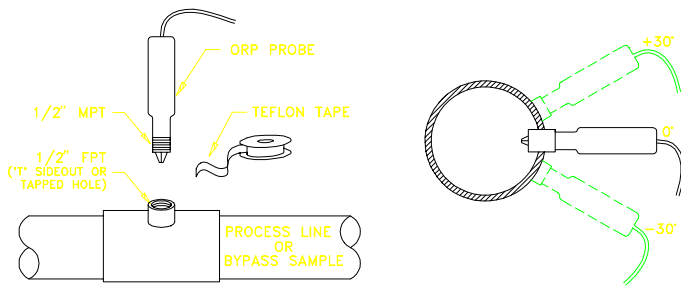

Figure 3: ORP Probe
2. Install an appropriately sized tee in the process line or drill and tap a 1/2" FPT hole in the process pipe as shown in figure 3.